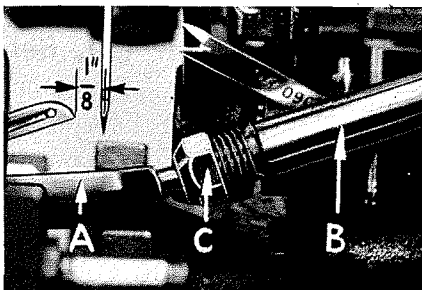
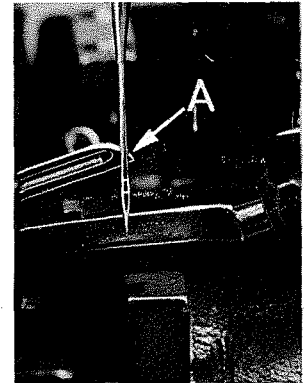

Fig. 5
Fig. 7
Insert the 503 stitch lower looper (A, Fig. 5) into bar (B). With lower looper at left end of its stroke set looper point  $\frac{1}{8}$  inch from center of needle (Fig. 5) using looper gauge No. 21225- $\frac{1}{8}$ . Do not have lower looper deflecting needle. Do not lock looper nut (C) because the looper point will have to be set to the needle scarf after the rear needle guard has been assembled and positioned. (See paragraph under "Final Setting of Lower Looper.")
Now finish lower looper adjustment. As lower looper moves to the right its point should be set into the needle scarf (A, Fig. 7) until the needle springs forward from the rear needle guard surface another .002 to .004 inch. This setting is obtained by rocking the looper forward or backward around its shank. Recheck the  $\frac{1}{8}$  inch looper gauge setting and tighten nut (C, Fig. 5).